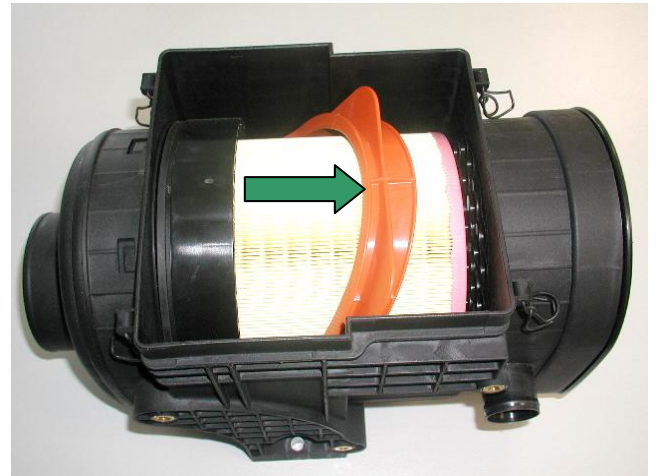

Fig. 7 Locking the clamping bar
- Move the red clamping bar fully towards "Lock" (refer to Fig. 7) and mount the lid.